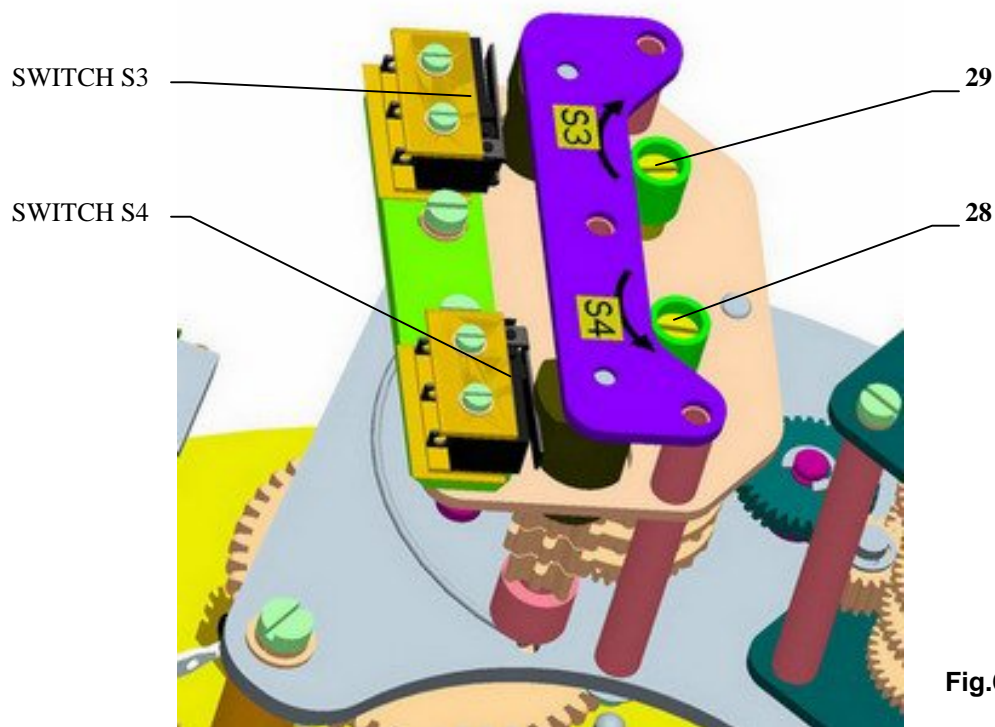

Fig.6
Check of position switches (Fig.6,8). When the actuator moves towards "close" switch over contacts of switches S4 resp. S6 by pressing of disconnecting bell of relevant switch. If the connection is properly performed, the actuator must stop when contacts of switch S4 are switched over and light up when contacts of switch S6 are switched over. Analogous repeat test towards "open". By pressing disconnecting
4.2 Position switches adjustment (S3(S13),S4(S14) (Fig. 6)
EA is delivered set to a stroke corresponding to 6.^o according to table 3 or to a stroke required by customer. The stroke referred on the type label of EA corresponds to the maximum stroke with the gear unit set to 11.^o according to table 3. The procedure for position switches setting, adjustment a new setting is as follows (Fig. 6, 7):
- Move EA to the "open" position electrically or manually. If, with electric move, EA has been switched off by S3 switch (Fig. 6), insert a screwdriver into set screw (29), press it and rotate in the arrow direction until an appropriate cam opens S3 switch. Pull the screwdriver out (see notice 1) and continue in moving EA in the „open“ position.
- In the „open“ position, insert a screwdriver into set screw (29), press it and rotate in the arrow direction until an appropriate cam closes S3 switch. Pull the screwdriver out (see notice 1).
- Move EA to the "close" position electrically or manually. If, with electric move, EA has been switched off by S4 switch (Fig. 6), insert a screwdriver into set screw (28), press it and rotate in the arrow direction until an appropriate cam opens S4 switch. Pull the screwdriver out (see notice 1) and continue in moving EA in the „open“ position.
- In the „close“ position, insert a screwdriver into set screw (28), press it and rotate in the arrow direction until an appropriate cam closes S4 switch. Pull the screwdriver out (see notice 1).